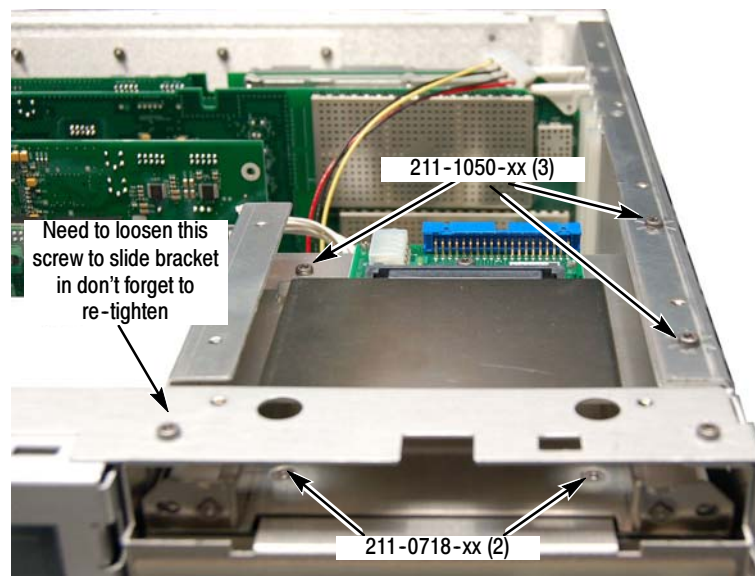

Figure 7: Reinstalling the bracket assembly
3. Reinstall the bracket assembly into the chassis. Reinstall the five screws, previously removed, to secure the bracket assembly in the chassis. See Figure 7.